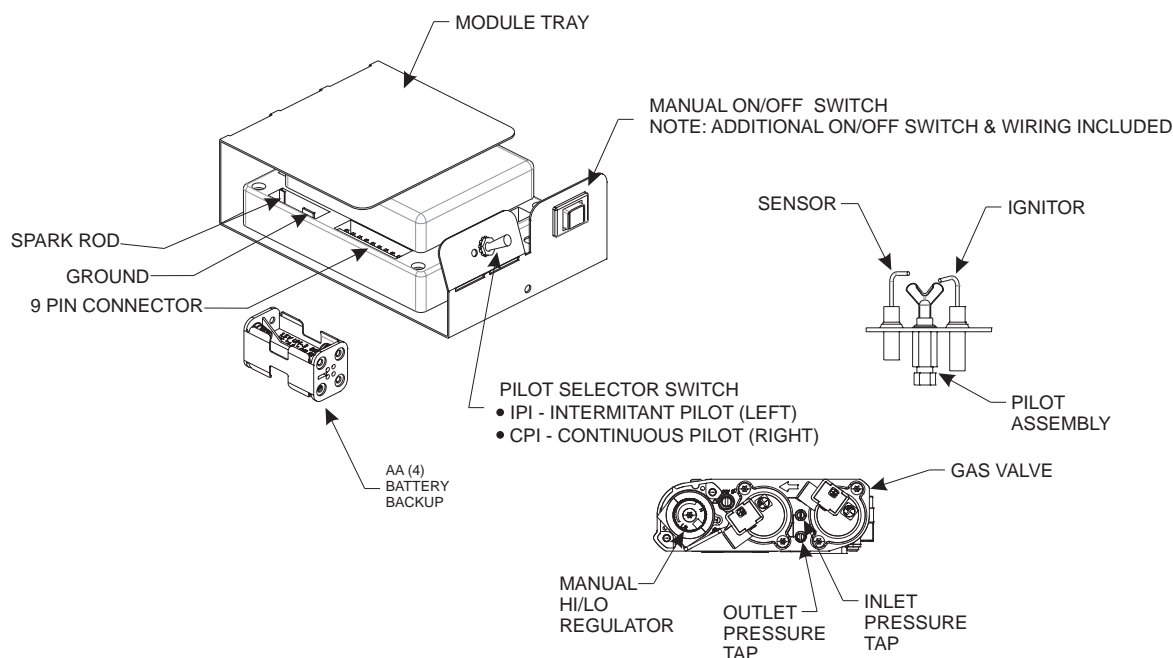

Figure 75
See Figure 75.
3. The gas valve has inlet and outlet pressure taps as shown in Figure 75. Refer to pages 8 and 17 for gas pressure requirements.
**NOTICE:** The gas control has a manual HI/LO flame adjustment knob (regulator) that allows you to increase or decrease the height of the burner flame. See Figure 75. Rotate the HI/LO knob counterclockwise to "HI" to increase the flame height, and clockwise to "LO" to decrease the flame height.
To connect the remote receiver to the appliance, first disconnect the ON/OFF switch wires from the white and green wire connectors and connect the wires from the remote receiver to the green and white wire connectors. See Figure 75. Follow the instructions included with the remote control for programming and other operational information.